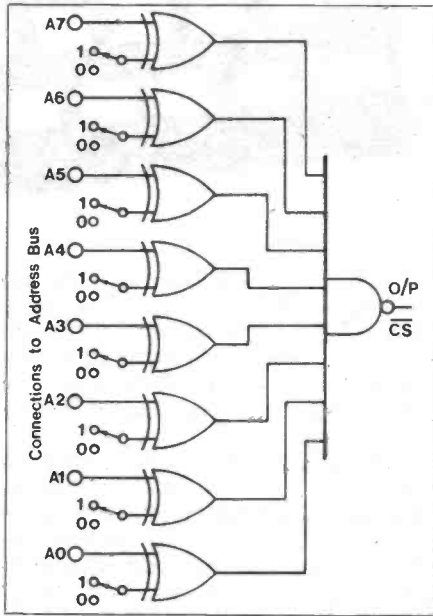

Figure 14.
One solution to this problem is given in Figure 14 and again this may be bread-boarded to see how it works. One input of the EX-NOR gates is connected to the address bus, and the other used to select the address of the device. The output of each EX-NOR gate is then NANDed, so that the final output goes low when the appropriate address appears on the address bus. This low signal could be connected to the 'chip select', (CS) pin of the chosen device or combined with other control bus signals for further decoding. Suppose the address of the input/output device corresponds to the following bit pattern:-